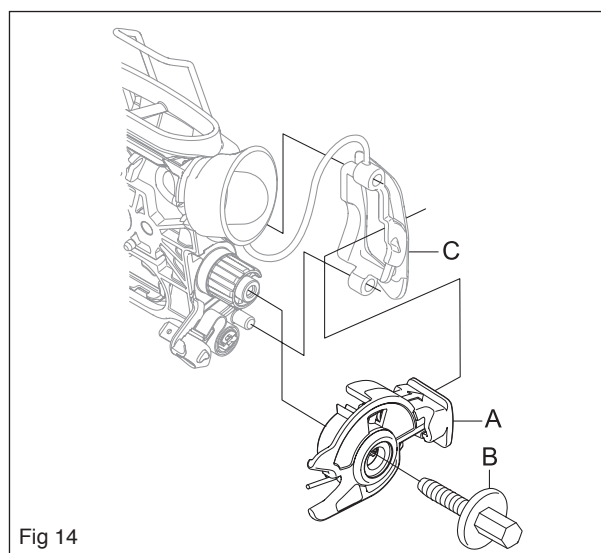

Fig 14
Fit the new stop control (A) and tighten screw (B) in place with a torque of 1 Nm. Slide in the stop control in the rubber sleeve C and hook the sleeve on the guide taps. See figure 14.